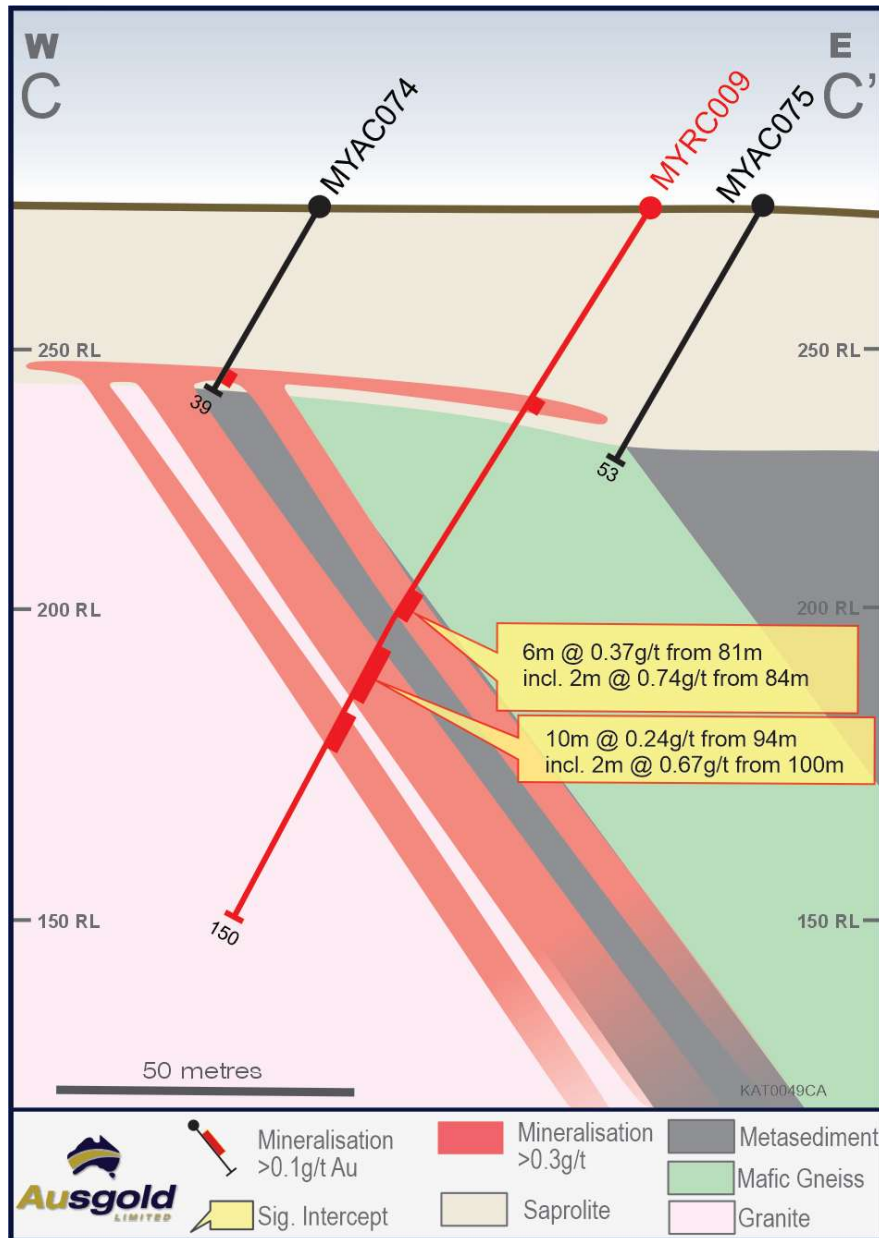

Figure 10 – Cross Section C-C' through Moulyinning highlighting new drilling and results
- 10m @ 0.24g/t from 94m including 2m @ 0.67g/t from 100m in MYRC009 (Figure 10)
- 6m @ 0.37g/t from 81m including 2m @ 0.74g/t from 84m in MYRC009 (Figure 10)